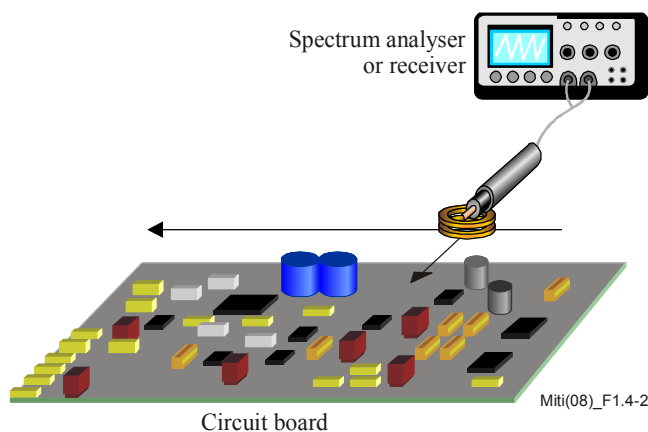
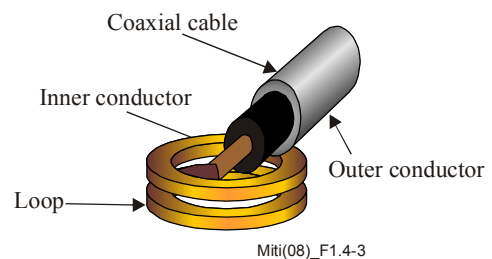

Figure 1.4-2 – Searching for the noise source
Figure 1.4-3 – Loop antenna
- b) The noise source was searched for using a near-field magnetic probe and a spectrum analyser, as shown in Figure 1.4-2. In this case, a probe (Figure 1.4-3) was used. This probe had a coil consisting of several turns installed ahead of the coaxial cable. The coil was connected between the inner and outer conductors. Areas close to board components IC8 and Xtal4 had higher noise levels.